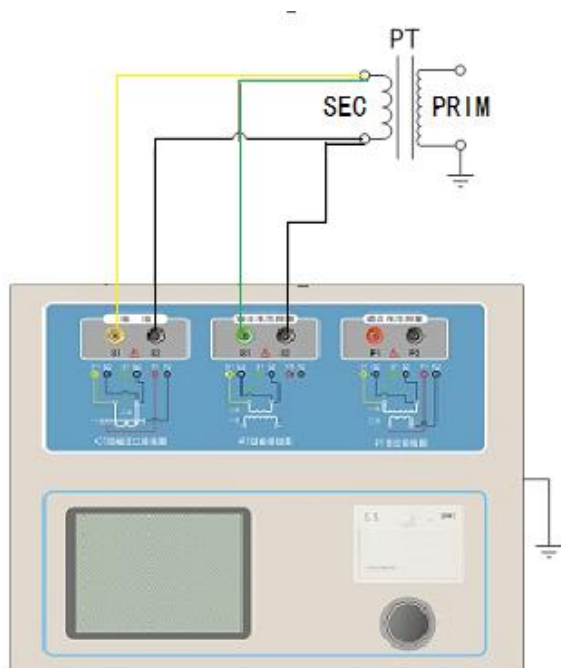
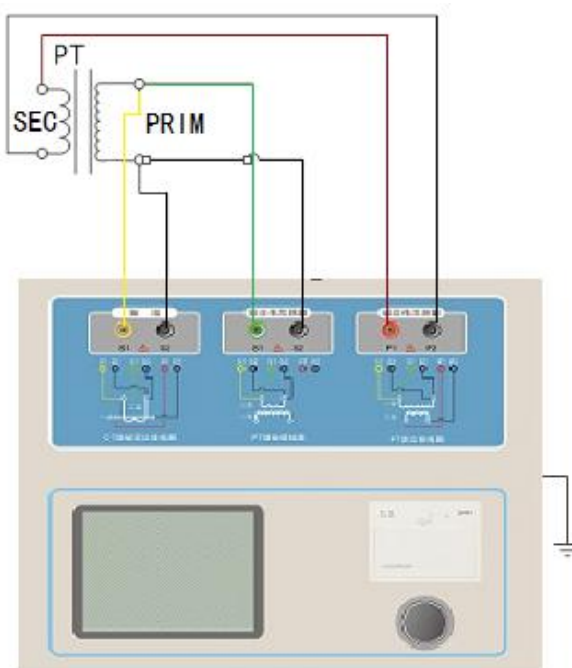

Fig 5 PT's DC resistance and excitation
Fig 6 PT's ratio and excitation
Step 1. According to PT testing program description of list 4, refer to figure 5 or figure 6 for wiring